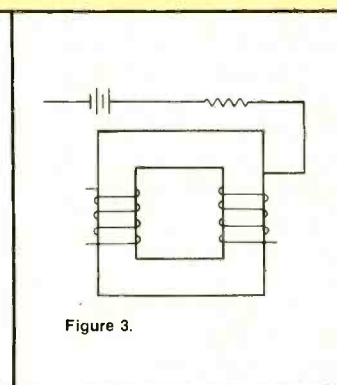

Figure 3.
6. Connect the coils and battery circuit in Figure 3 to obtain maximum flux in the iron core.